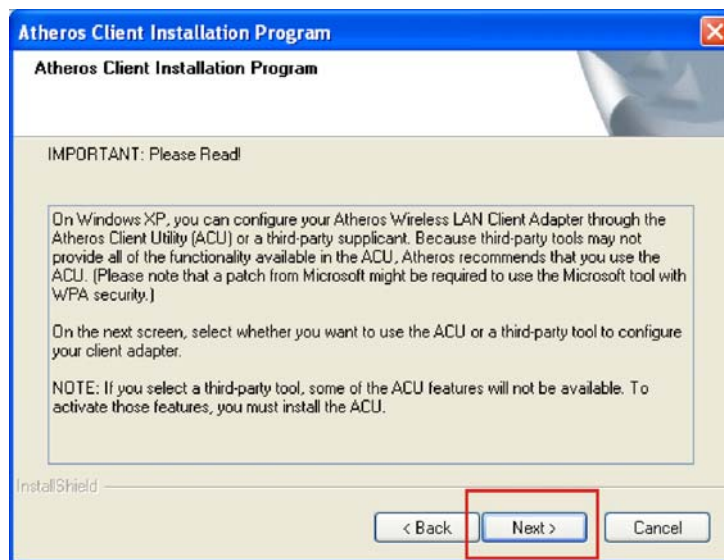

Figure 6-34: Readme File
Step 14: Select the program folder to install the menu shortcuts (default recommended) (Figure 6-34).
Step 15: Read the notice that appears, then click **NEXT** to continue (Figure 6-34).